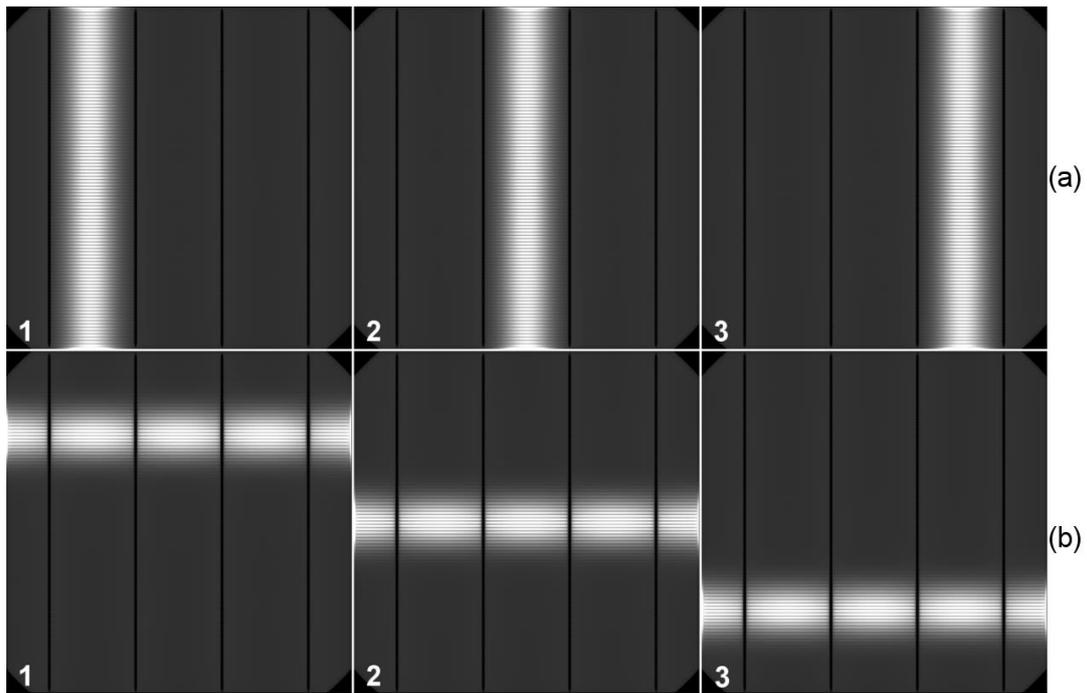

Figure 3: A subset of the simulated images required to produce PL_{LS} images with (a) horizontal and (b) vertical line scan direction. Reproduced from [1].
1. Line Scan Direction, which determines whether the line illumination is oriented horizontally or vertically (see Figure 3)